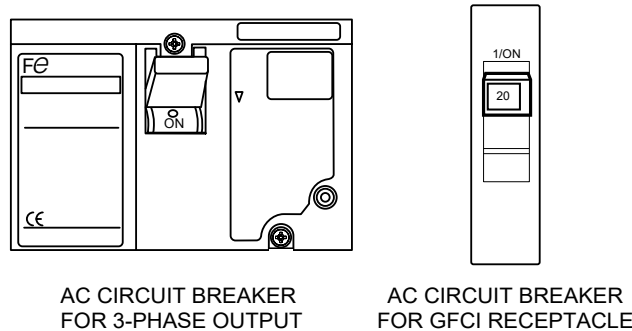

Figure 39. 3-Phase and GFCI Circuit Breakers (ON)
14. Place the **3-phase and GFCI circuit breakers** (Figure 39) in the **ON** position.